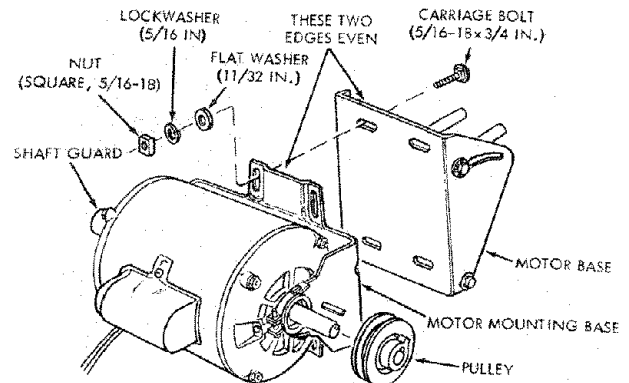

Figure 39
- Position the motor with the 5/8-inch diameter shaft at the right with mounting base in a vertical position. (See figure 39.)
- Insert four 5/16-18 x 3/4-inch carriage bolts (from loose parts package) through the motor base and motor mounting base. (See figure 39.)
- b. Install the motor pulley on motor shaft with the set screw boss toward the outside. (See figure 39.) Do not tighten the set screw at this time.